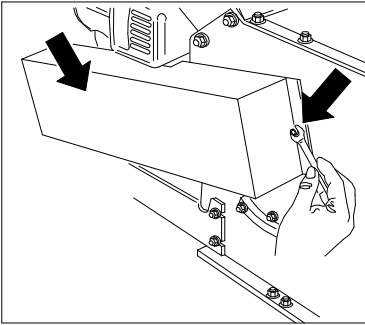

Fig. 20
- Remove the transmission belt casing, as shown in Fig. 20.